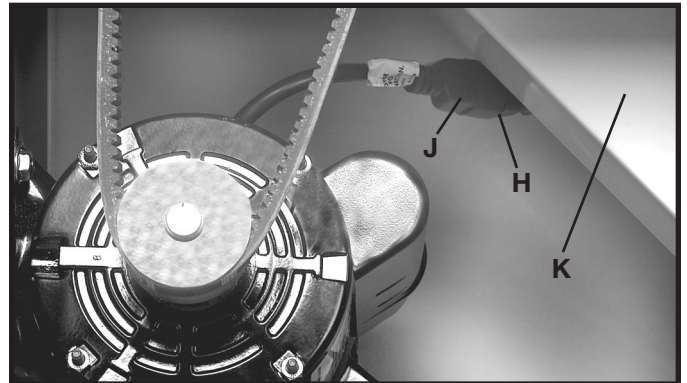

Fig. 40
8. Insert the pronged motor plug (J) Fig. 40, into the receptacle (H) of switch cord.
**CAUTION** MAKE SURE THAT THE MOTOR PLUG (J) FIG. 40 AND THE SWITCH CORD (H) ARE ROUTED BEHIND THE DUST CHUTE (K). IF THE BAND SAW IS BEING USED WITH THE ACCESSORY HEIGHT ATTACHMENT THE THE CORD HAS TO BE ROUTED IN FRONT OF THE DUST CHUTE.